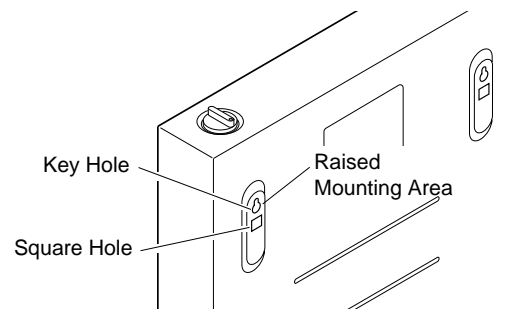

Figure 4 - Raised Mounting Areas
1. Locate the two raised mounting areas at top of heater back panel. Each area has a square hole in center and a key hole at top (see Figure 4).